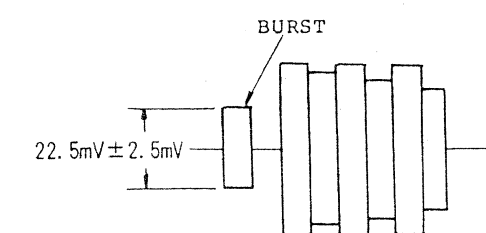

Fig. 4-106
1) Record Luma/Chroma Level Adjustment (Figs. 4-106, 4-107, 4-152, 4-153)